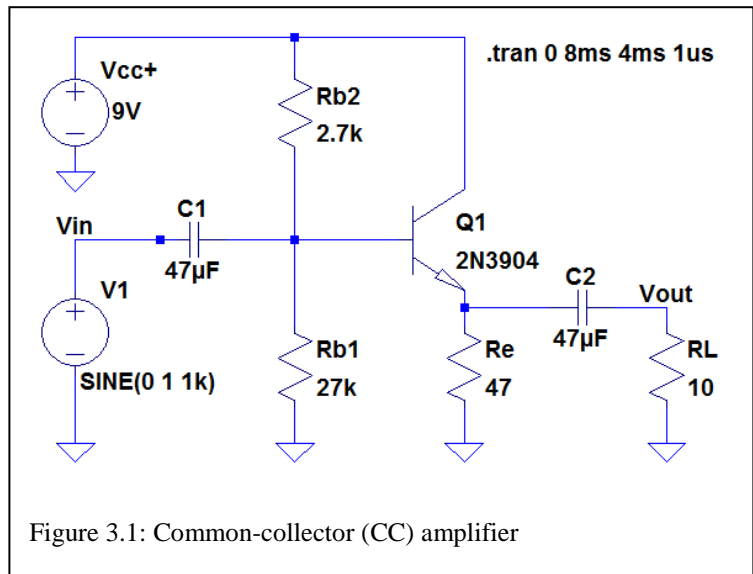

Figure 3.1: Common-collector (CC) amplifier
A buffer amplifier can be realized with a BJT through a common-collector configuration. This type of amplifier, shown in Figure 3.1, is also referred to as an *emitter-follower*, since the output on the emitter ideally follows the input signal on the base (that is, the gain is about 1). Notice the input has a 1 V amplitude; about a volt or two is the typical value we'd like to have at our speaker for a loud output.
1. Construct the CC amplifier of Figure 3.1 in LTspice. Run the DC Op Pnt to find the transistor Q-point:
2. Run a transient simulation with an 8ms stop time, 4ms delay time, and 1μs time step (see Figure 3.1 .tran statement). Plot the output and input voltages (this should look like Figure 3.2) and determine the gain of this CC amplifier.
4. Build the CC amplifier of Figure 3.1 and insert it between the generator and the speaker, replacing the CE amp in Figure 3.8.
- The CC amp consists of all parts of Figure 3.1 between and including the pair of coupling capacitors C1 and C1.
- $R_L = 10\text{ }\Omega$ from Figure 3.1 is replaced with the 8Ω speaker.